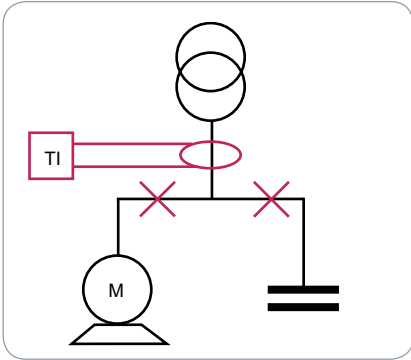

Fig. 11 Diagram of connection to a single LV busbar and CT location.
It is indispensable to set up the current transformer (CT) in accordance with Fig. 11, and installing the system at any of the points indicated by a cross would result in the system malfunctioning.